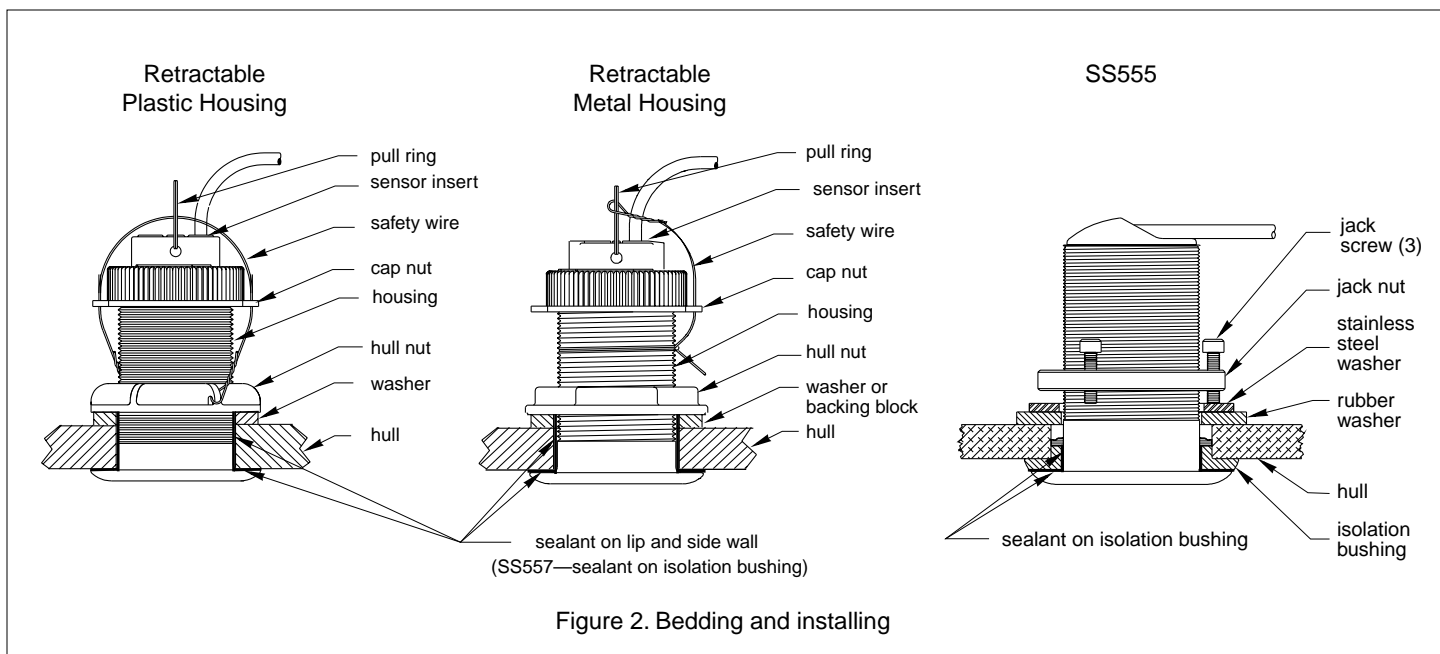

Figure 2. Bedding and installing
1. Remove the hull nut and any washer (see Figure 2).
1. From outside the hull, push the cable and housing into the mounting hole using a twisting motion to squeeze out excess sealant (see Figure 2).
2. Remove the safety wire from the pull ring and cap nut. Then, unscrew the cap nut (see Figure 2).